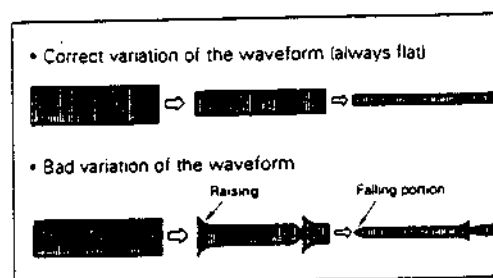

Fig. 1-5-6
- 5) By pushing the tracking buttons several times, vary the FM waveform output from maximum to minimum (& vice versa) gradually and confirm that the variation proceeds in a flat shape, as in Fig. 1-5-6.